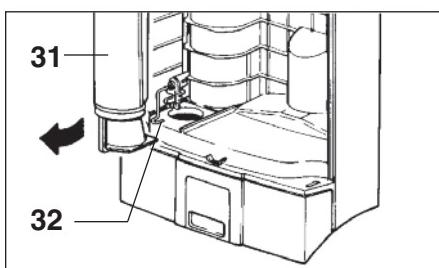

Figure 10
Changing the Micro-Hygiene Filter - *Figure 10*
3. Microfilter not properly inserted.	3. Lift safety lever and insert filter with vertical plastic ridge on filter facing you (see pg. 8, figure 10).